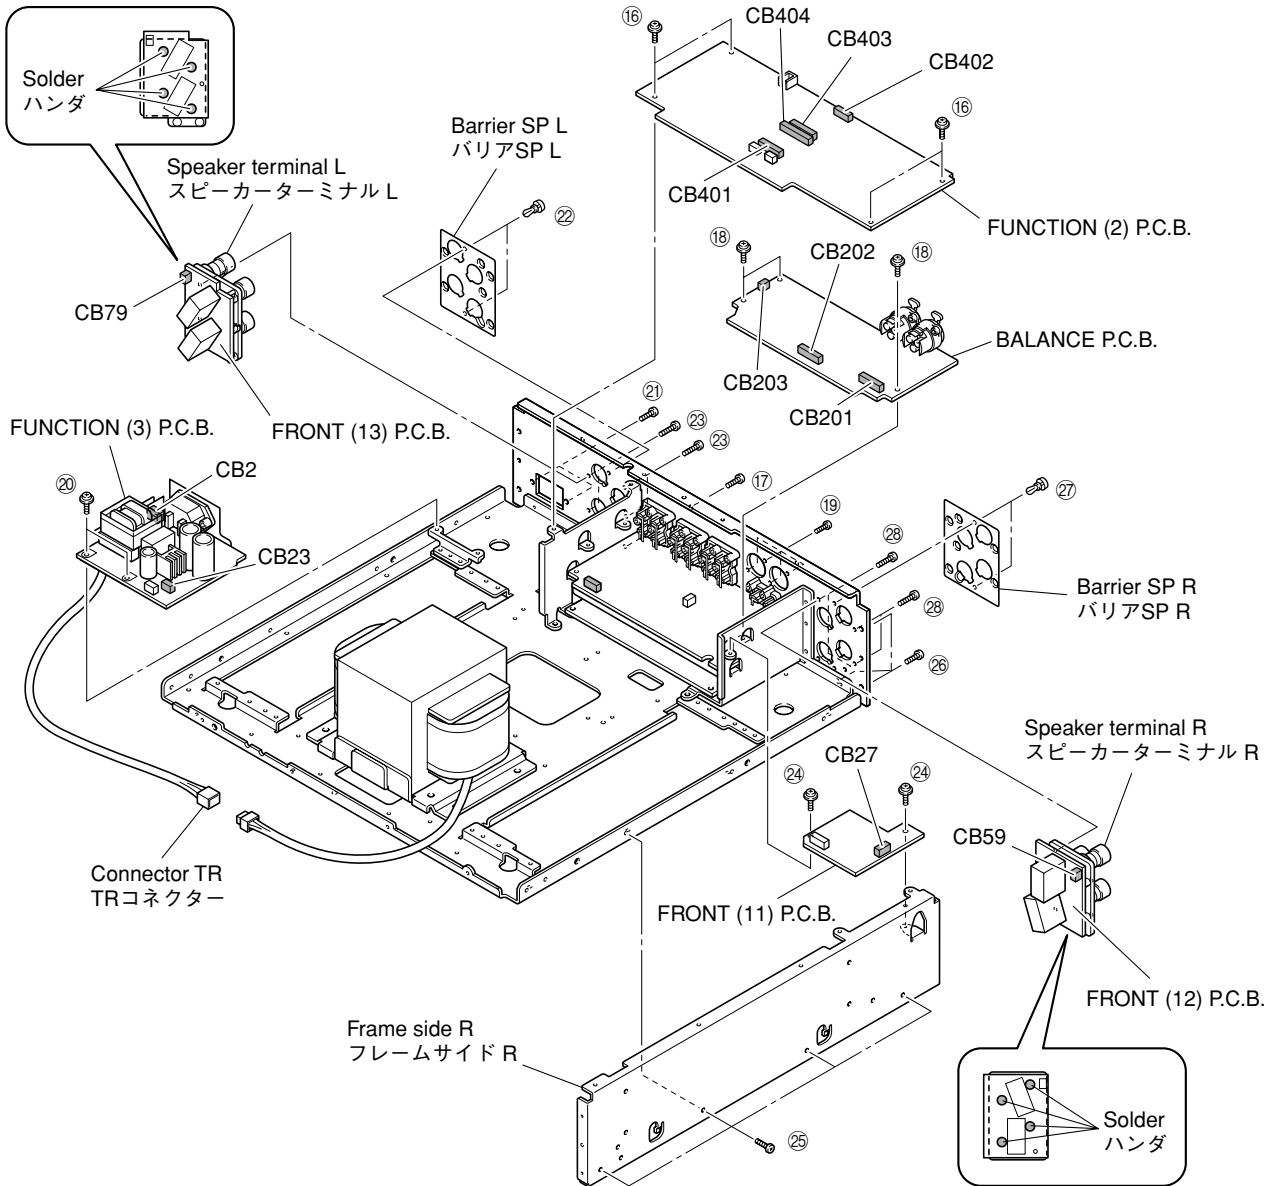
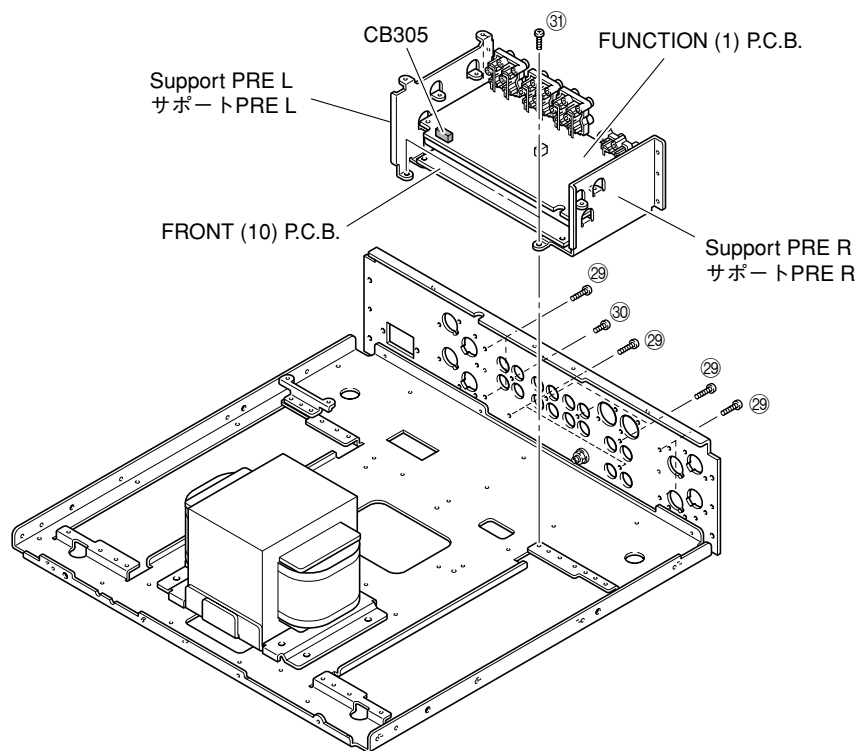

Fig. 8
Fig. 10
7. Removal of FUNCITON (2) P.C.B.
- a. Remove 4 screws (16) and a screw (17). (Fig. 8)
- b. Remove CB401-404. (Fig. 8)
- c. Remove the connector TR. (Fig. 8)
- e. Remove FUNCTION (2) P.C.B.. (Fig. 8)
7. FUNCTION (2) P.C.B.の外し方
- a. ⑯のネジ4本、⑰のネジ1本を外します。(Fig. 8)
- b. CB401-404を外します。(Fig. 8)
- c. TRコネクタを外します。(Fig. 8)
- e. FUNCTION(2)P.C.B.を取り外します。(Fig. 8)
- a. Remove 3 screws (18) and 4 screws (19). (Fig. 8)
- b. Remove CB59 and CB201-203. (Fig. 8)
- c. Remove BALANCE P.C.B.. (Fig. 8)
- a. Remove 2 screws (20) and 2 screws (21). (Fig. 8)
- b. Remove CB2, CB23 and CB79. (Fig. 8)
- c. Remove FUNCTION (3) P.C.B.. (Fig. 8)
- d. Remove 2 push rivets (22) and then remove the barrier SP L. (Fig. 8)
- e. Remove 5 screws (23). (Fig. 8)
- f. Remove the speaker terminal L together with the P.C.B.. (Fig. 8)
- g. Unsolder the P.C.B. to separate the speaker terminal L. (Fig. 8)
- h. Remove 2 screws (24). (Fig. 8)
- i. Remove CB27. (Fig. 8)
- j. Remove FUNCTION (11) P.C.B.. (Fig. 8)
- k. Remove 4 screws (25) and 3 screws (26). (Fig. 8)
- l. Remove frame side R. (Fig. 8)
- m. Remove 2 push rivets (27) and then remove the barrier SP R. (Fig. 8)
- n. Remove 5 screws (28). (Fig. 8)
- o. Remove the speaker terminal R together with the P.C.B.. (Fig. 8)
- p. Unsolder the P.C.B. to separate the speaker terminal R. (Fig. 8)
- a. 18のネジ3本、19のネジ4本を外します。(Fig. 8)